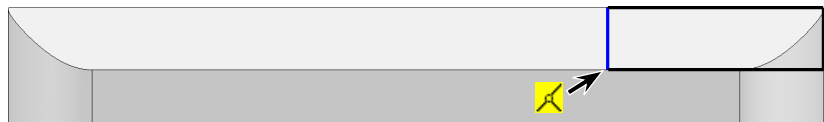

Fig. 9
Step 4. Sketch corner rectangle from the top right corner down coincident with edge of cut, Fig. 9.